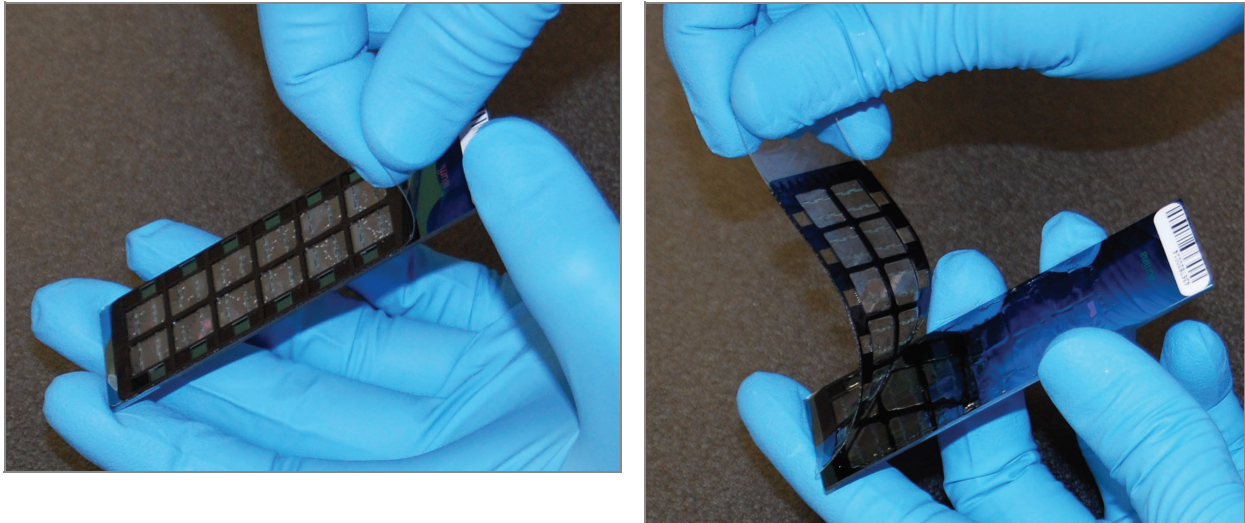

Figure 161 Removing the IntelliHyb Seal
4. Remove the IntelliHyb seal from each BeadChip as follows (Figure 161):